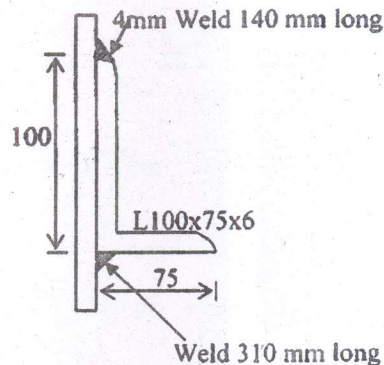

Fig. 4
14. Determine the tensile strength of a roof truss diagonal $100 \times 75 \times 6$ mm connected to the gusset plate by 4-mm weld as shown in Fig.4